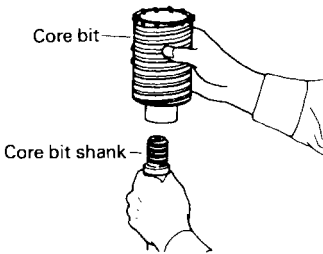

Fig. 12
- (1) Mount the core bit on the core bit shank. (Fig. 12) Before that, feed oil the screw portion of core bit shank for easily dismount.